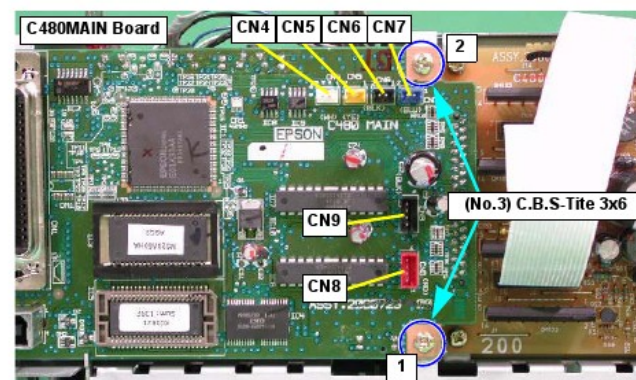

Figure 4-19. C480MAIN Board
3. While supporting the C480MAIN Board with your hand, remove the 2 screws (No.3) C.B.S-Tite 3x6 (0.59-0.79Nm) securing the board to the FRAME ASSY, CR using the order shown Figure 4-19. (Starting with lower screw.) (Refer to Figure 4-19.)
When removing the screws securing the C480MAIN Board to the FRAME ASSY, CR, support the board by hand to prevent it from dropping and remove the lower screw first. (Refer to Figure 4-19, "C480MAIN Board".)